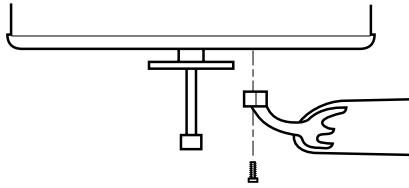

Figure 9d - Attaching Blade Irons to Hub of Fan Assembly
4. For each blade, insert one blade mounting screw through the blade iron as shown in Figure 9d, and attach lightly to the fan. Insert the second blade mounting screw, then securely tighten both mounting screws.